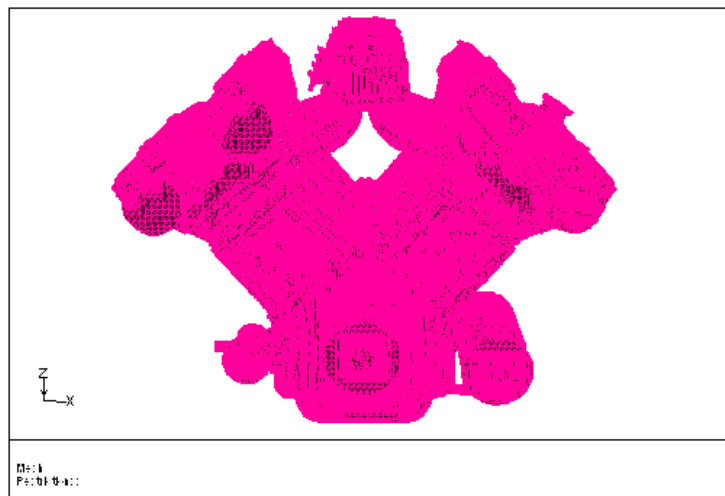

Figure 7.22: Wrapper Surface
4. Display the wrapper surface (Figure 7.22).
You may need to click Reset in the Bounds tab of the Display Grid panel and manipulate the display in the graphics window to obtain the view shown in Figure 7.22.